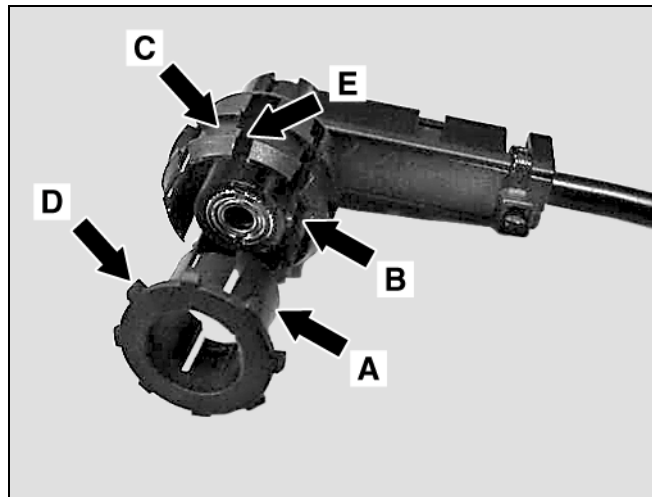

Figure 2
4. Remove the quick-release connector lock (A, Figure 2) from the auxiliary input harness connector (B, Figure 2).
Note: Be sure the edge of the glove compartment hole inserts into the groove in the connector (C, Figure 2).
Note: Be sure the spines (D, Figure 2) of the quick-release lock inserts into the corresponding notches (E, Figure 2) in the connector.